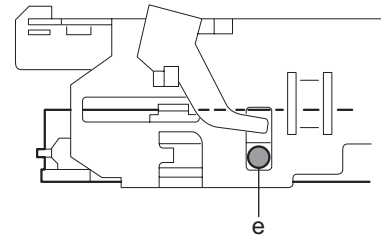

Fig.35
2.5.2 Mounting the lifter unit (See fig.35~37)